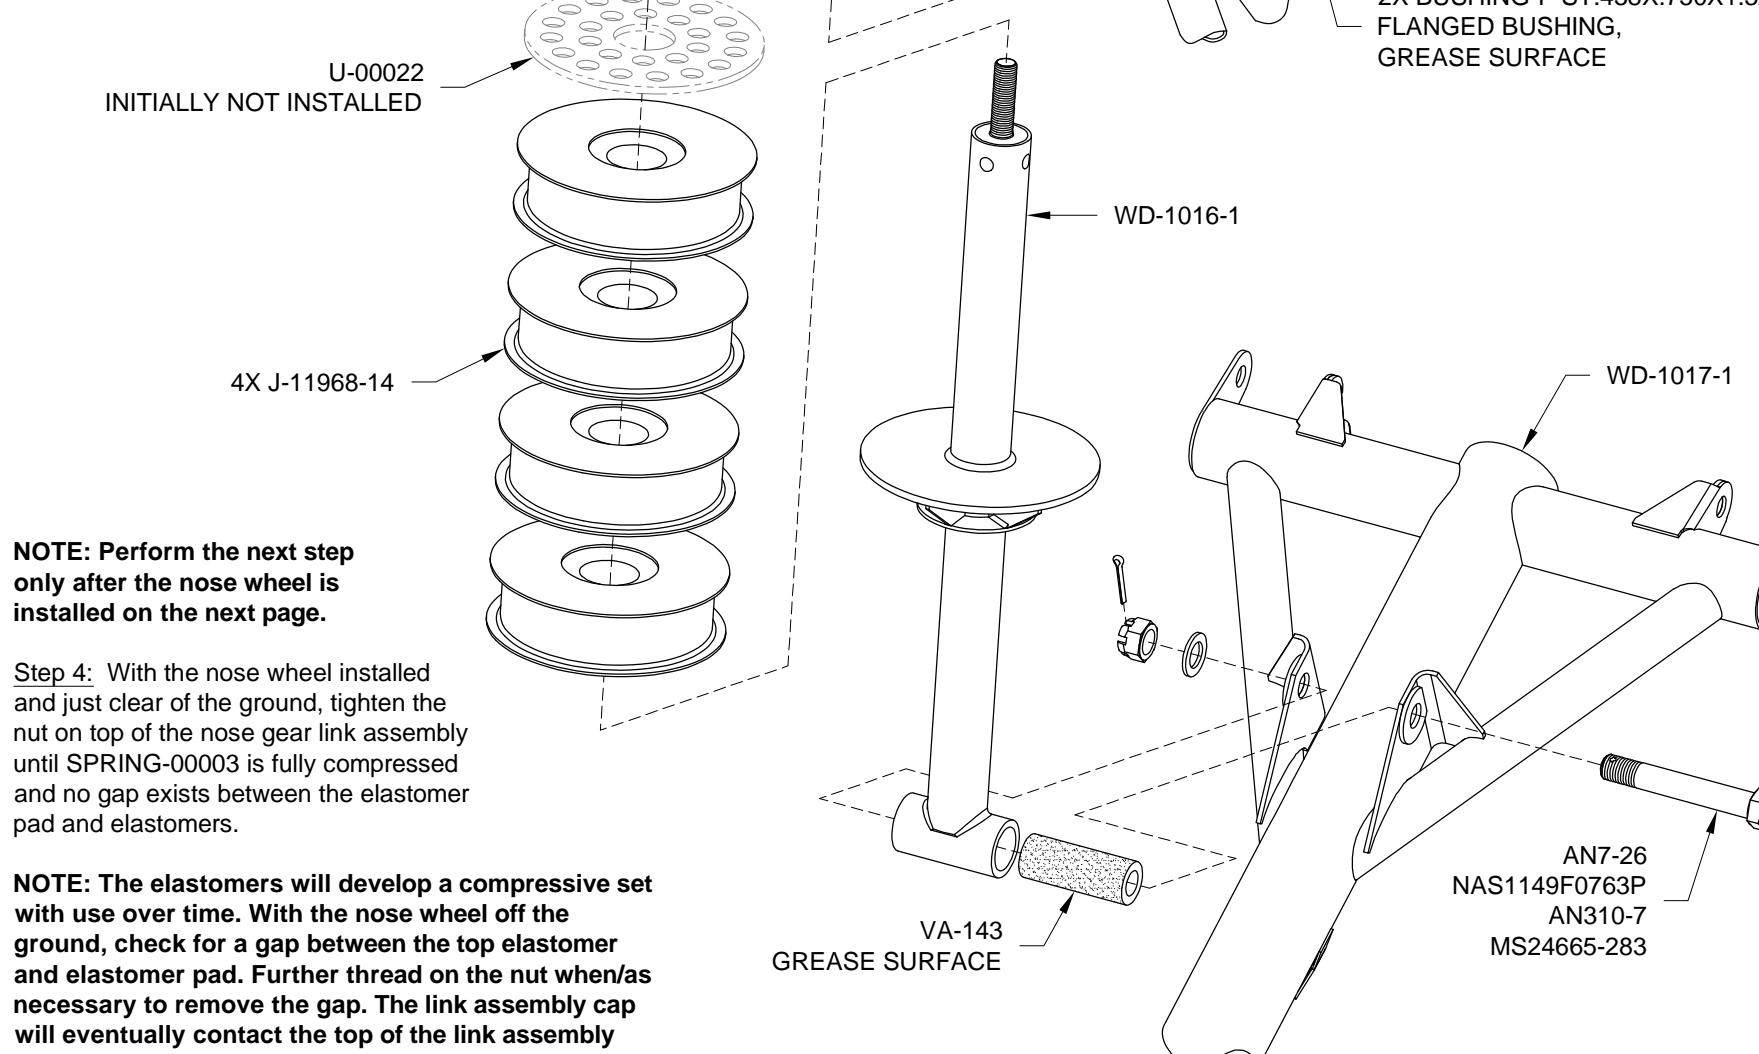

FIGURE 1: INSTALLING THE NOSE GEAR LINK ASSEMBLY
Step 1: Bolt the U-01407 Elastomer Pad to the WD-01001-D1-1 Engine Mount using the hardware called out in Figure 1. If necessary, remove excess powder coat from the ends of the engine mount bushings to allow the flanged bushings and elastomer pad to swivel freely.
Step 3: Attach the bottom of the WD-1016-1 to the WD-1017-1 Nose Gear Leg Assembly using the hardware shown in Figure 1.